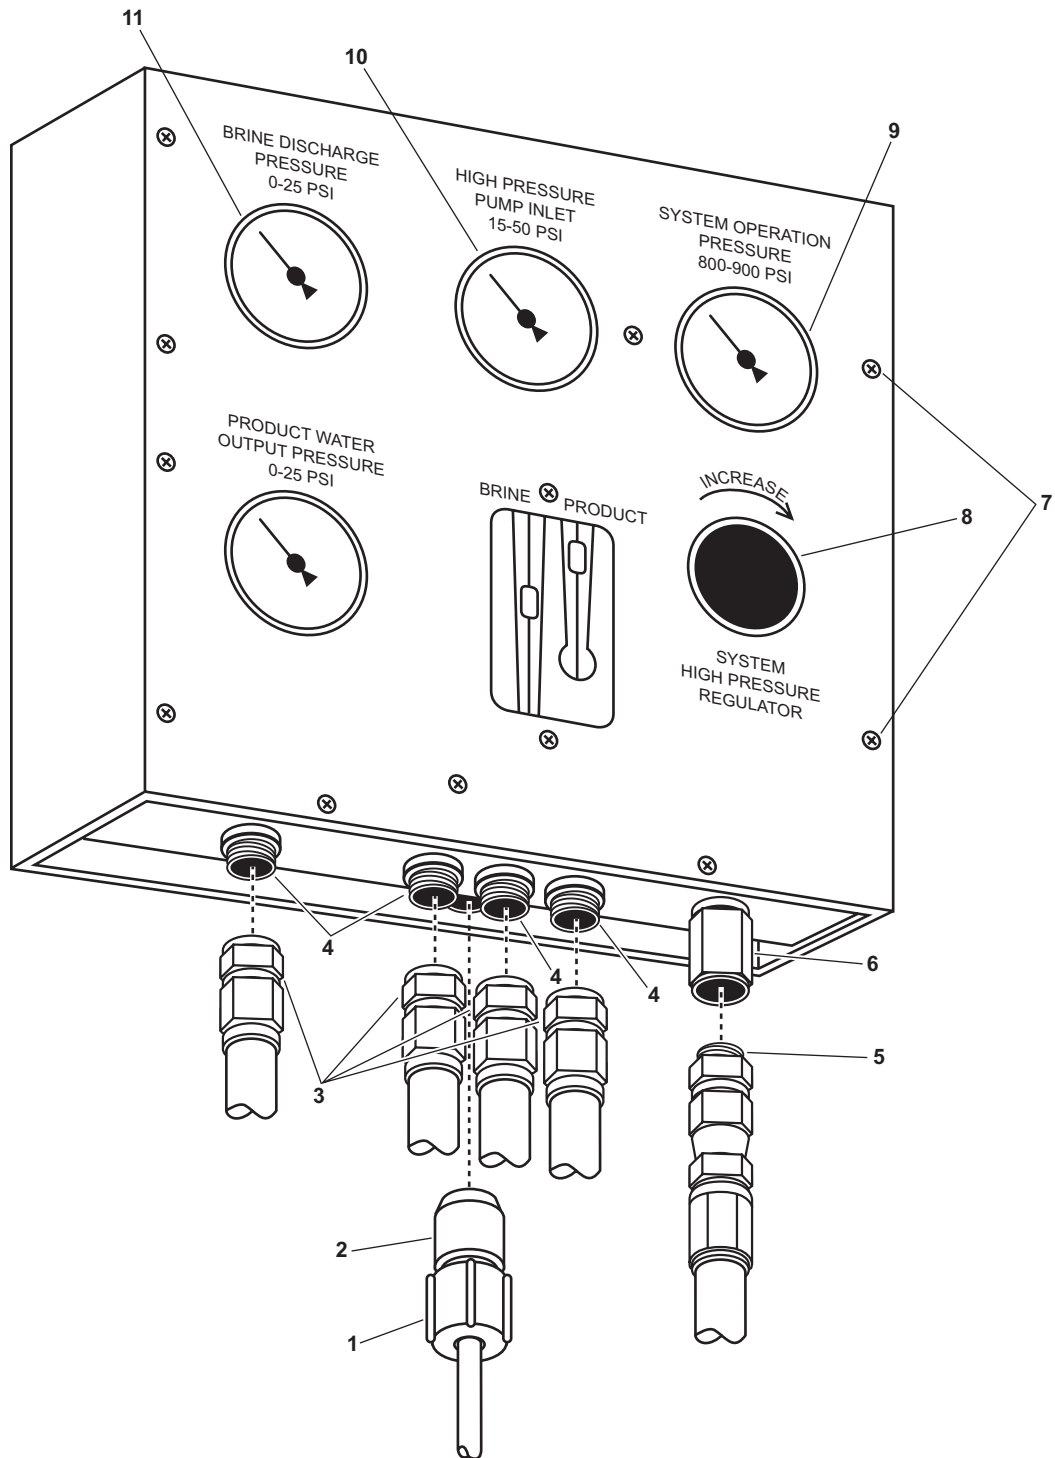

Figure 4. ROWPU Flow Control Panel
9. Unscrew the salinity probe (figure 4, item 1) and remove it from the tee fitting (figure 4, item 2).
1. Place four wraps of antiseizing tape on the male threads of the salinity probe (figure 4, item 1).
2. Install the salinity probe (figure 4, item 1) on the tee fitting (figure 4, item 2). Hand tighten only, using no tools.
5. Disconnect and free the stainless steel piping (figure 4, item 3) from the fittings (figure 4, item 4).
6. Disconnect and free the outlet hose (figure 4, item 5) from its fitting (figure 4, item 6).
7. On the flow control panel, loosen the two captive screws (figure 4, item 7), and open the flow control panel.
6. Close the flow control panel and tighten the two captive screws (figure 4, item 7).
7. Install the stainless steel piping (figure 4, item 3) and outlet hose (figure 4, item 5) to their respective fittings (figure 4, items 4 and 6).
7. Loosen the two captive screws (figure 4, item 7) and open the applicable flow control panel.
6. Close the indicator panel and tighten the two captive screws (figure 4, item 7).
1. On the applicable ROWPU indicator panel, fully open the SYSTEM HIGH PRESSURE REGULATOR (figure 4, item 8).
3. Slowly increase system operating pressure by CLOSING the SYSTEM HIGH PRESSURE REGULATOR (figure 4, item 8) until the SYSTEM OPERATION PRESSURE gauge (figure 4, item 9) indicates 950 PSI (65.5 bar).
- b. Fully open the SYSTEM HIGH PRESSURE REGULATOR (figure 4, item 8).